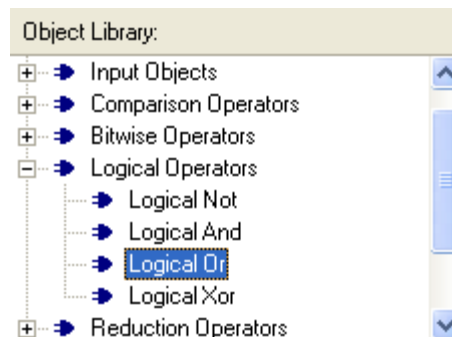

Figure 23. Select the Logical Or operator from the Object Library window and drag this into the editing window.
5. We now need to add the necessary logical operators to our circuit. We will need an OR gate as well as three edge level detectors. To access the OR gate, click on the plus sign next to Logical Operators and select Logical Or, as in Figure 23. Then drag and drop the operator into the editing window.